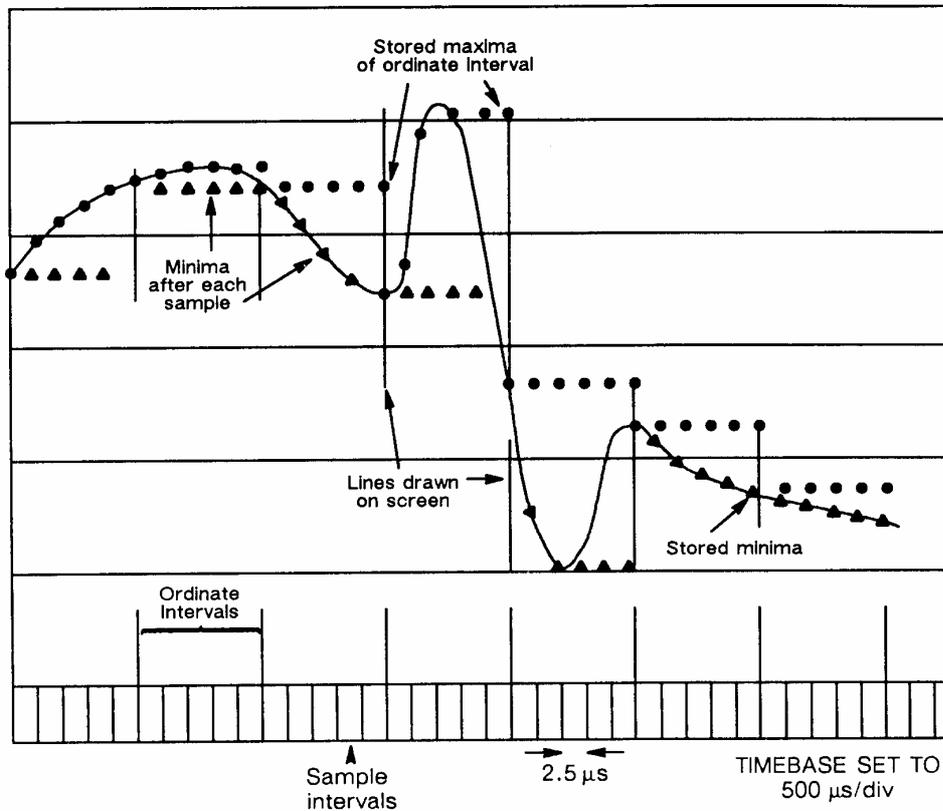

Fig. 4-13 Oscilloscope display generator process – AB2/2
89. The maximum and minimum latch outputs from IC7 and IC8 connect to the A and B inputs respectively of the data selector formed by IC10 and IC11. When enabled by pin 15 being taken low by the SCOPE TIMEBASE signal, the data selector connects the inputs to the data bus. Since SCOPE TIMEBASE occurs at the ordinate rate (which is variable and depends upon timebase setting), only the peak and trough values found during the preceding ordinate period are passed on. When IC26b QB goes low the peak value is output and when it returns high the trough value is output. These data are sent into two consecutive locations in display memory IC12, and write address counters IC18a and IC17 are incremented. IC7 and IC8 are both reloaded at this time with the current sample latched from IC2, ready for comparison with the next sample. Fig. 4-13 shows the manner in which values are stored and the lines are drawn on the screen to reproduce the waveform.